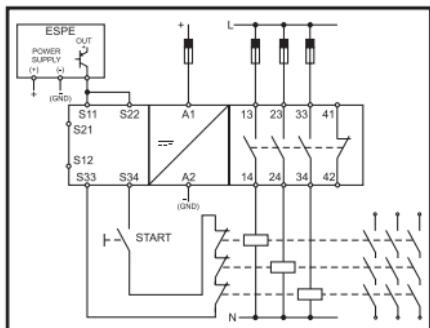

Fig. 5: ESPE: 1 uscita PNP a 1 filo /
- **ESPE with one one-wire output (PNP-type or relay-type)**: connect the output to the S11 terminal; short-circuit the terminals S11 with S22, leaving S12 and S21 not connected (fig. 5, 6, max safety cat. 2 PL: c).
In Fig. 5 and 6 are shown the connections of ESPE with 1 one-wire output: the ESPE output is connected to S11 and S22 is short-circuited to S11. The category of the application can reach up to category 2 according to the EN ISO 13849-1 standards.